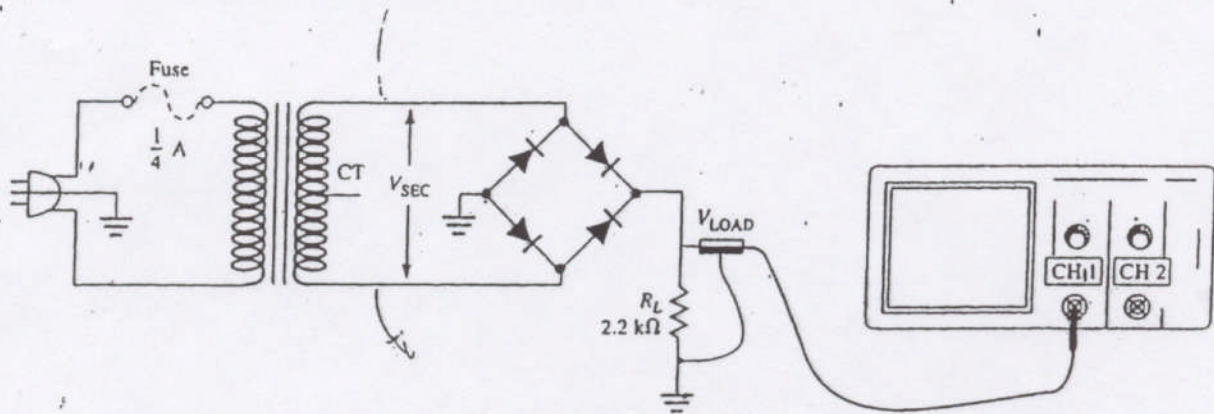

Figure 6
8. Next measure the rectified voltage V_{load} with channel 2. The vertical should be in the dc mode for this measurement. Record the reading and draw the signal relationships to each other. See fig. 6.